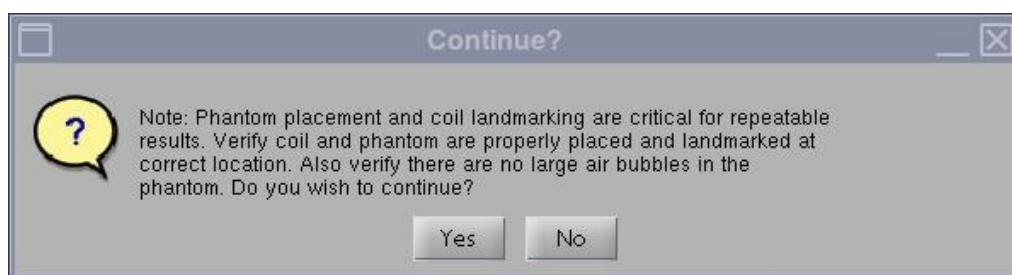

Figure 4
3. Upon start-up, a Note stating, “Phantom placement and coil landmarking are critical for repeatable results” will appear. If the landmark has been set correctly and there are no air bubbles in the phantom, click **[Yes]** to continue. (Figure 4).